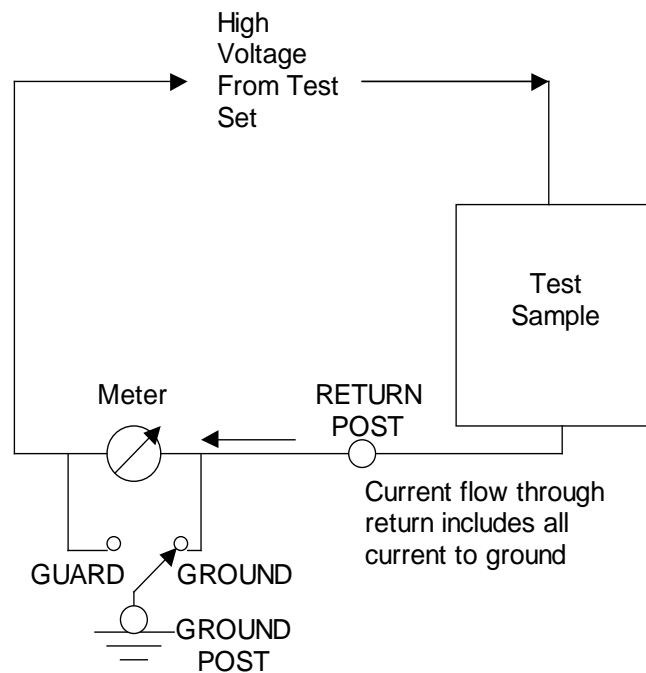

Figure 2, Grounded Return Diagram
1. **Grounded Return-** With the output return in the grounded mode, the current meter reads all current to ground, internal and external to the test set. This current might include corona, surface tracking, and any shunt resistance. The typical diagram for grounded return operation is shown in **Figure 2** below.